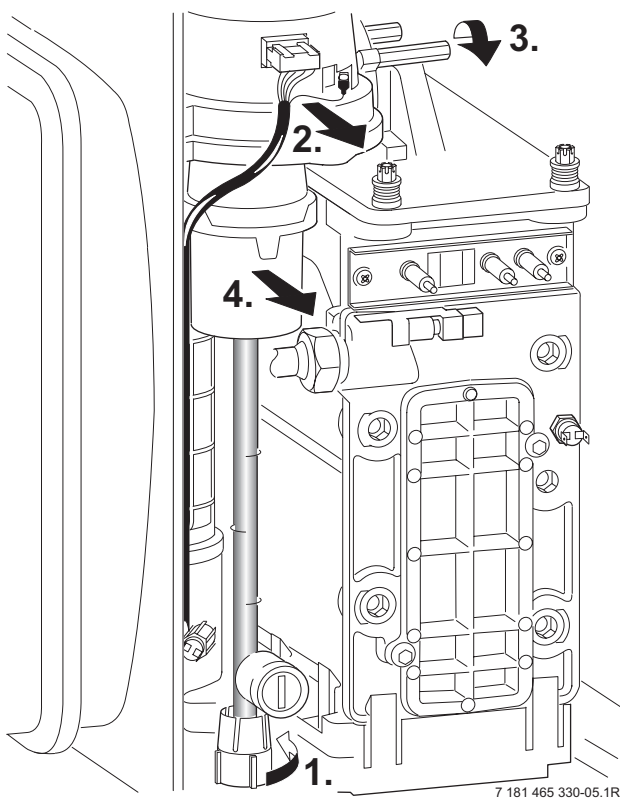

Fig. 63
- ▶ Undo lower pipe union on gas pipe (1.). Refer to fig. 63.
- ▶ Undo the union, within the inner casing, securing the valve to the gas/air tube. Refer to fig. 63.